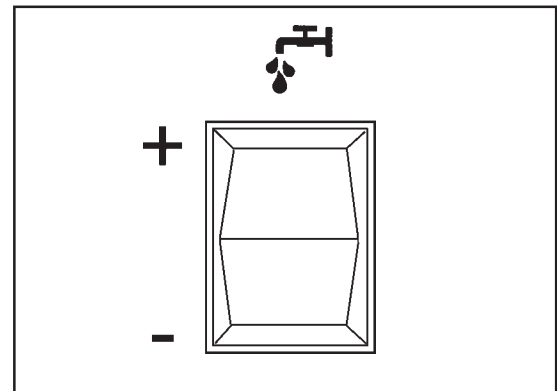
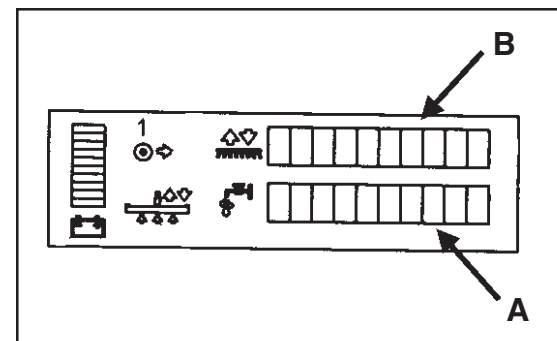
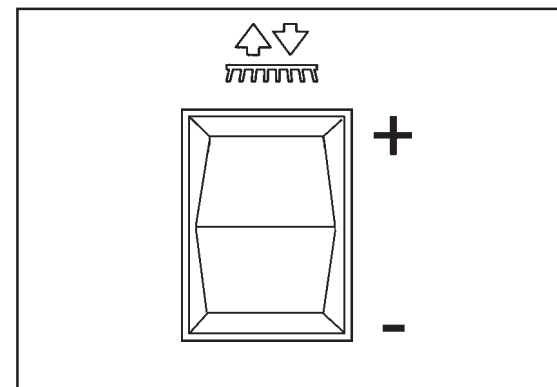

Figure 25
Figure 26
Figure 27
The solution is used to loosen and remove dirt from the floor. The amount of solution applied can be adjusted to five different levels to accommodate many different floor conditions. These different levels are shown on the LCD display on the front of the machine. To adjust the amount of solution applied, use the Solution Flow Switch (figure 25). **NOTE: There are five different settings on the display. See figure 26, A.**
1. Press the “+” side of the switch (figure 25).
1. Press the “-” side of the switch (figure 25).
The brushes are used to supply agitation for the solution, which improves the cleaning process. The amount of brush pressure applied can be adjusted to five different levels to accommodate many different floor conditions. These different levels are shown on the LCD display on the front of the machine (figure 26, B). To adjust the amount of brush pressure, use the brush up/down switch (figure 27).
1. Press the “+” side of the switch (figure 27).
1. Press the “-” side of the switch (figure 27).